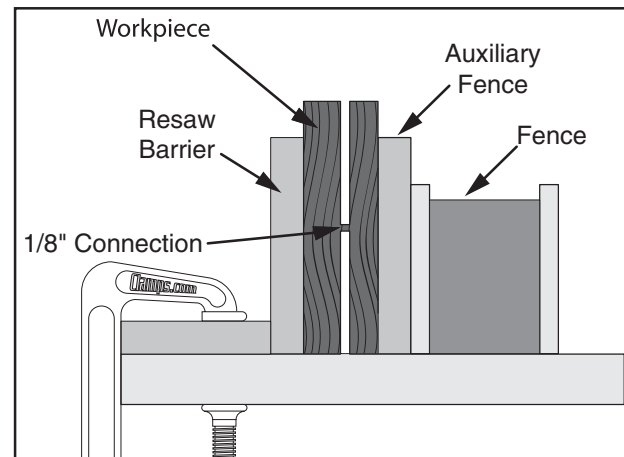

Figure 56. Ideal completed resaw cut.
4. Place the workpiece against the fence and slide the resaw barrier against the workpiece. Now clamp the resaw barrier to the top of the table saw (see **Figure 56**).
6. Raise the blade approximately an inch, or close to half the height of the workpiece (**Figure 56**), whichever is less.
9. Repeat **Steps 6–8** until the blade is close to half of the height of the board to be resawn. The ideal completed resaw cut will leave an $\frac{1}{8}$ " connection when the resawing is complete as shown in **Figure 56**. Leaving an $\frac{1}{8}$ " connection will reduce the risk of kickback.